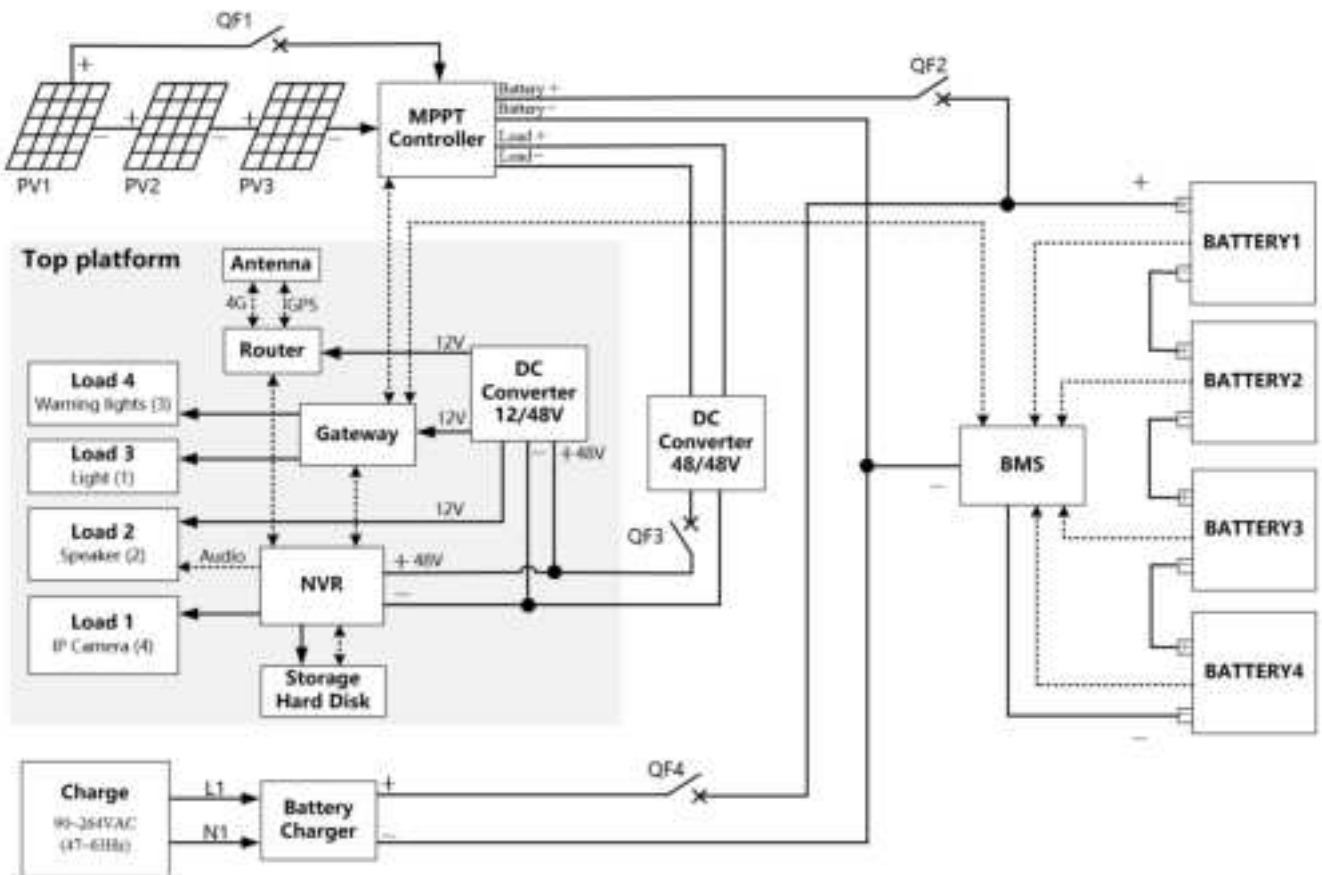

Fig. 7 Electrical schematic diagram
- 2) Inside the electrical enclosure, locate the circuit breaker switch, which is designed to control various sections under diverse operational conditions as depicted in Fig. 7.